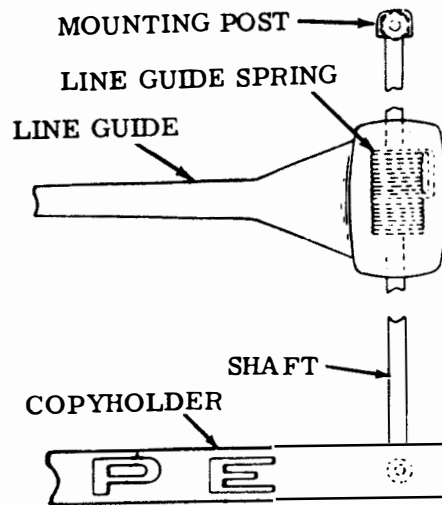

Figure 6-354. Copyholder
(1) Refer to Figure 6-354.
(2) Line guide should have sufficient tension to prevent it from slipping down its shaft and also hold copy in place.
(3) To adjust, remove shaft mounting screws or nuts from shaft and turn shaft to increase spring tension. Replace screws or nuts.